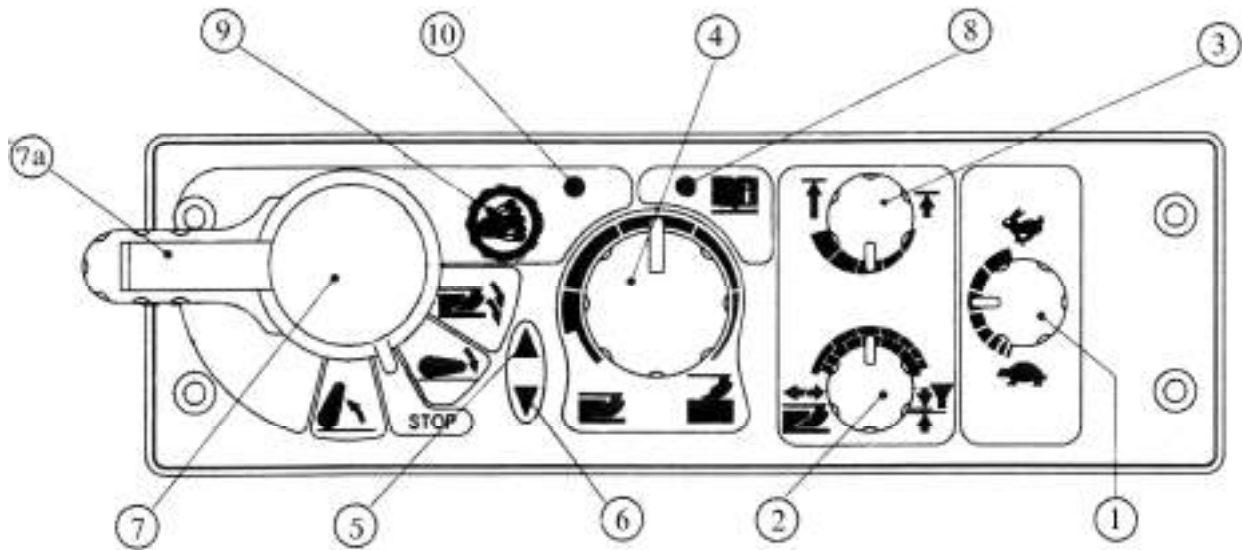

Fig. E-36. RHL control panel
- depending on the character of job, set the control method by means of the handle (2) (Fig. E-36);
- set the treatment depth and height of the implement lifting in the transportation position by means of the handles (4) and (3), respectively.
- to lower the hitch linkage, shift the handle (7) to the bottom fixed position. In this case, the indicator (6) goes out.